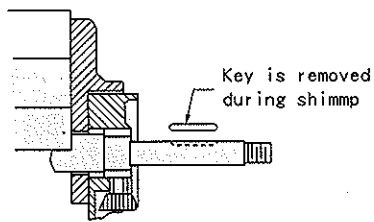
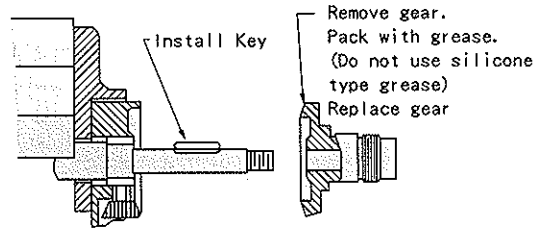

FIG.2 Preparation
FIG.5 Lubrication
- Fig. 2 through Fig. 5 is shown the sequence of the bevel gear installation.